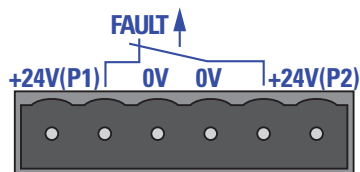

Figure 1: Pin assignment of the signal contact
- ▶ The signal contact (“FAULT”, for pin assignment of terminal block, see fig. 1) monitors the functioning of the device, thus enabling remote diagnostics. You can specify the type of function monitoring in the Management.